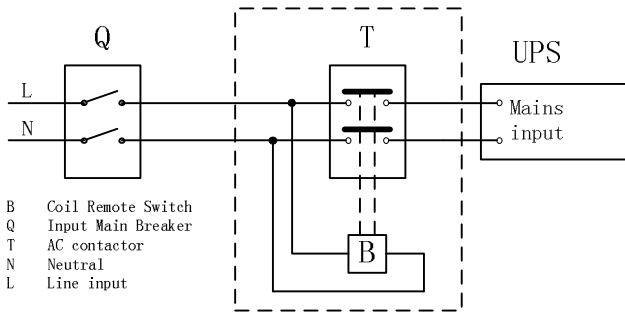

Fig.4-6 Typical external isolating device installation
- 1) It is suggested to install an external isolating device against current backfeed between Mains input and UPS (see Fig.4-6). After the device is installed, it must add a warning label with the following wording or the equivalent on the external AC contactor: RISK OF VOLTAGE BACKFEED. Isolate the UPS before operating on this circuit, then check for hazardous voltage between all terminals.